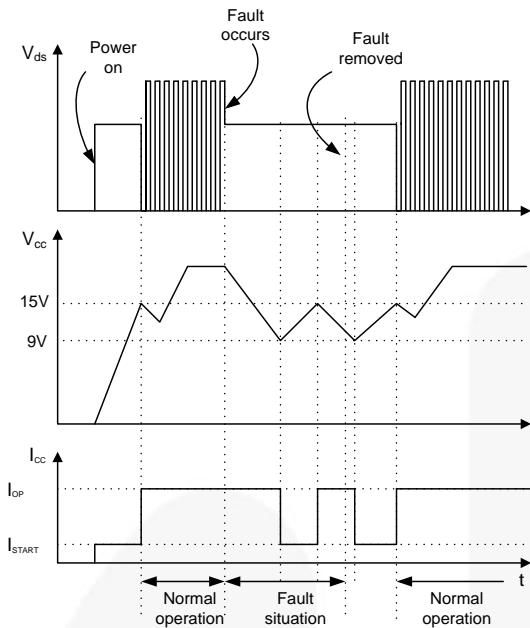

Figure 33. Auto Restart Mode Protection
- **Auto-Restart Mode Protection:** Once the fault condition is detected, switching is terminated and the SenseFET remains off. This causes V_{CC} to fall. When V_{CC} falls to the under voltage lockout (UVLO) stop voltage of 9 V, the protection is reset and the FSCQ series consumes only startup current (25 μ A). Then, the V_{CC} capacitor is charged up, since the current supplied through the startup resistor is larger than the current that the FPS consumes. When V_{CC} reaches the start voltage of 15 V, the FSCQ series resumes its normal operation. If the fault condition is not removed, the SenseFET remains off and VCC drops to stop voltage again. In this manner, the auto-restart can alternately enable and disable the switching of the power SenseFET until the fault condition is eliminated (see Figure 33).